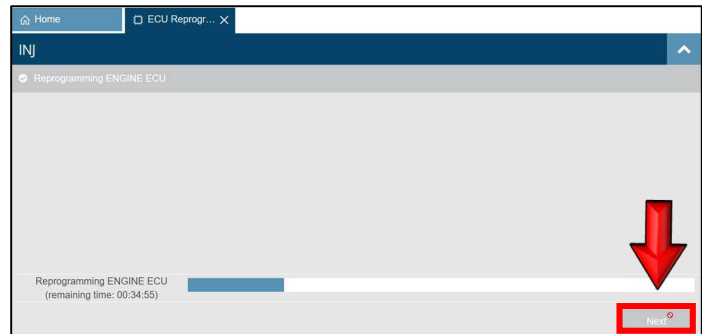

Figure 17
17. Allow the reprogramming process to complete and select **Next**. (Figure 17)